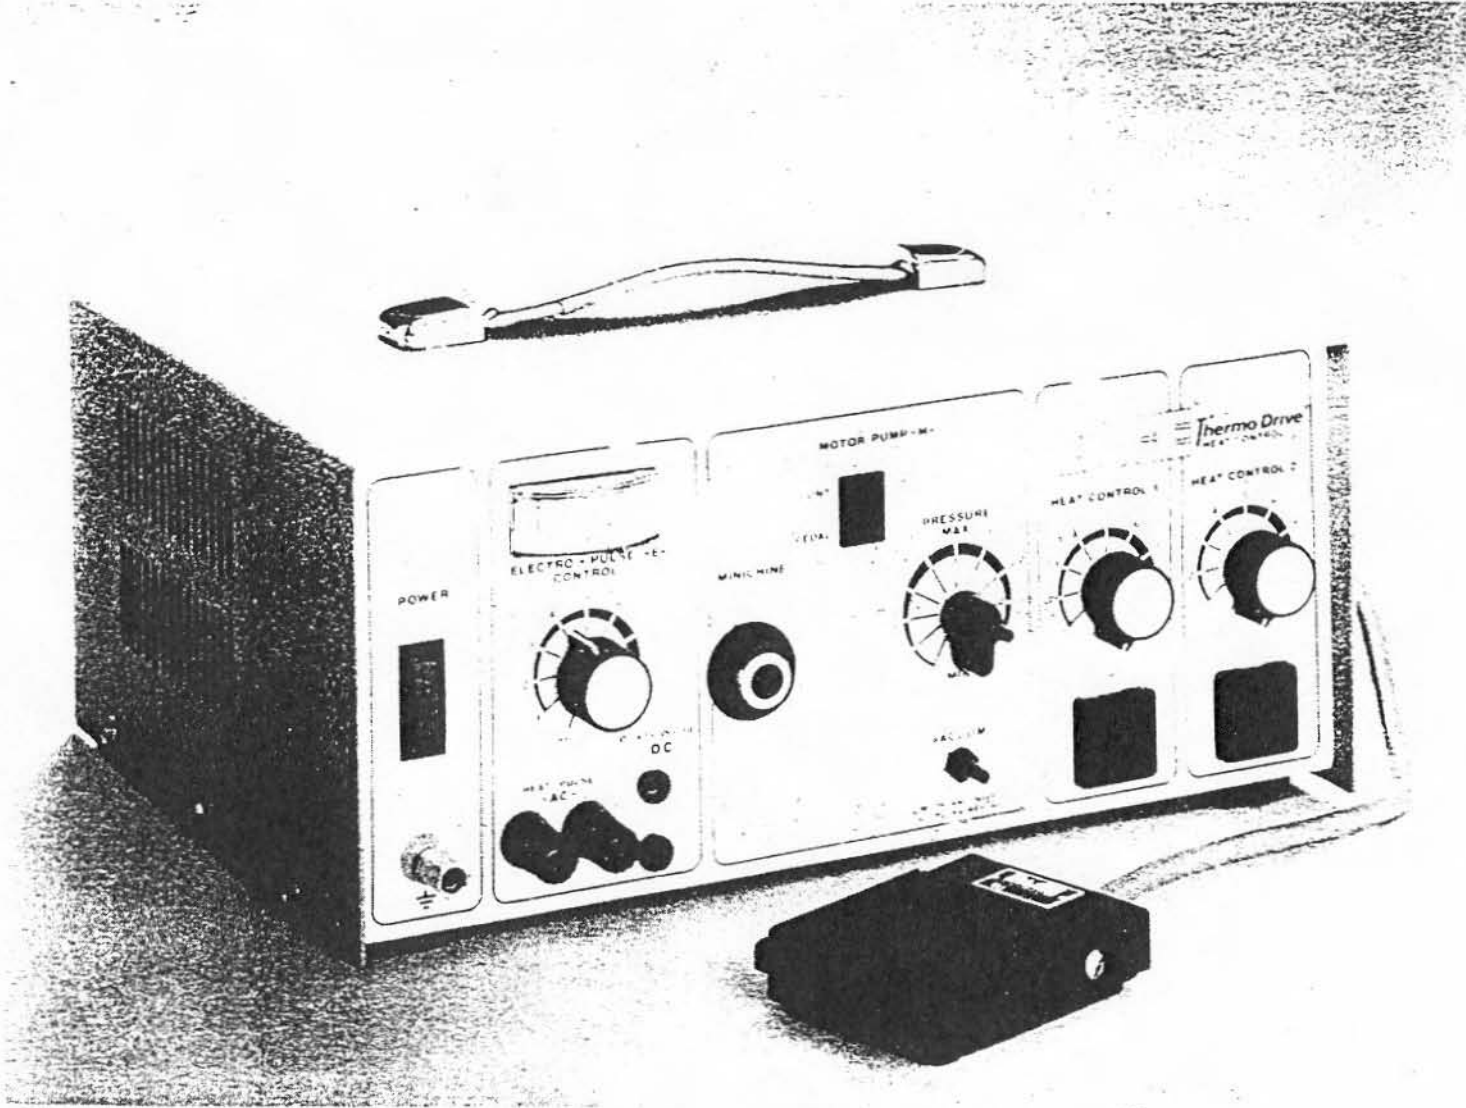

FIGURE 1. PACE REPAIR SYSTEM PRC-150C/151
- PACE Model PRC-150C (domestic) which consists of PACE Power Source PPS-100C (see Figure 1),
- PACE Model PRC-151*/PRC-151G* (domestic) which consists of PACE Power Source PPS-101 (see Figure 1), and
- PACE Model PRC-151BE* (export) which consists of PACE Power Source PPS-101BE (220VAC) or PPS-101BUK (240VAC) (see Figure 1)